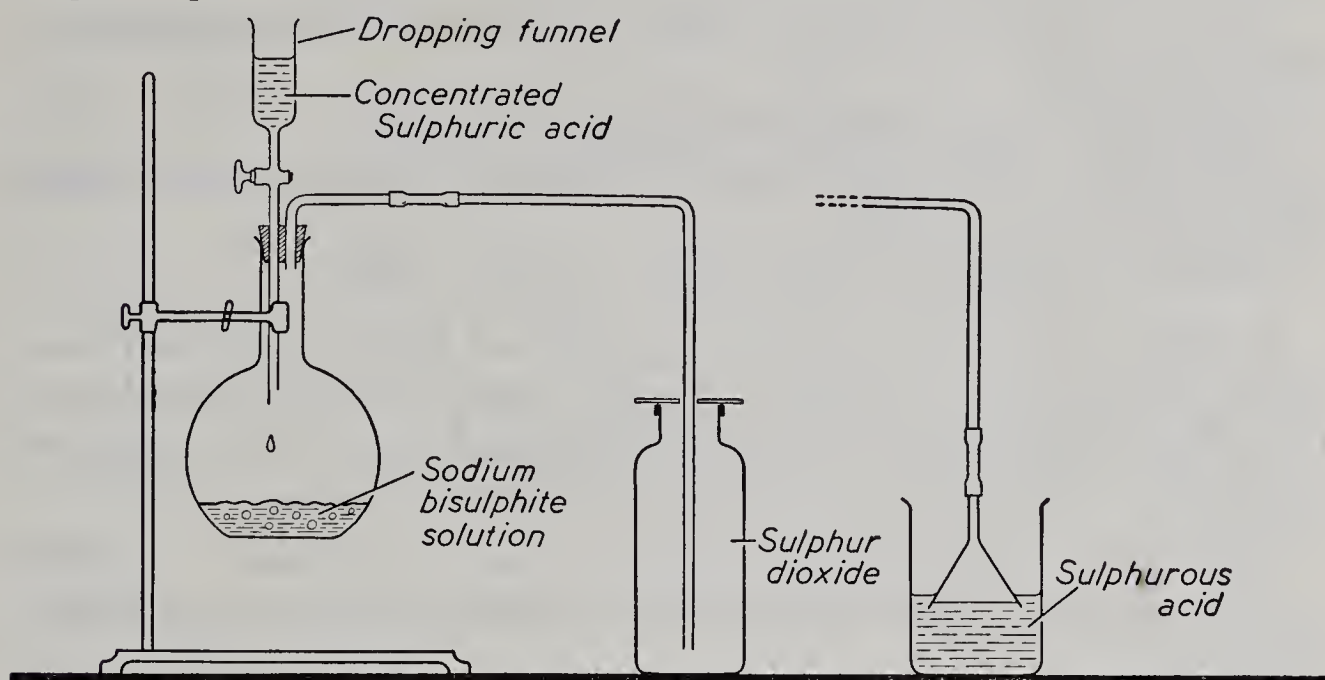

Fig. 61. The laboratory preparation and collection of sulphur dioxide.
1. Arrange the apparatus as shown in Fig. 61 and place a concentrated solution of sodium bisulphite in the flask. Control the rate at which sulphuric acid drops into the flask so that a steady flow of gas is produced.